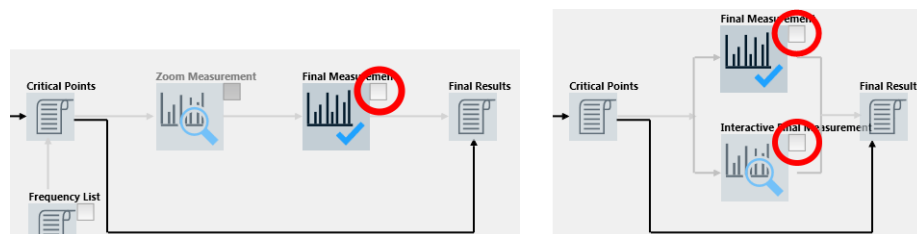

Figure 4-61: Skipping the final measurements uses the critical points as final result
To let the software do so, disable the "Final Measurements" checkbox as in Figure 4-61.
However, you can apply a "skip" mode and use the critical points results as final results. To apply this mode, disable the checkbox as in Figure 4-61.
- The left-hand screenshot in Figure 4-61 shows the case with activated "ELEMI-S" license.